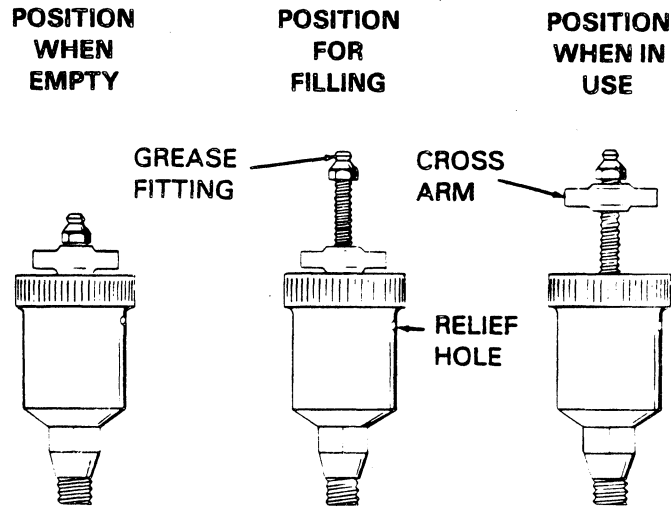

Figure 5. Automatic Lubricating Grease Cup
Fill the grease cup (46) through the grease fitting with No. 2 lithium base grease until grease escapes from the relief hole. Turn the grease cup arm counterclockwise until it is at the top of the stem; this will release the spring to apply grease to the seal (see Figure 5).